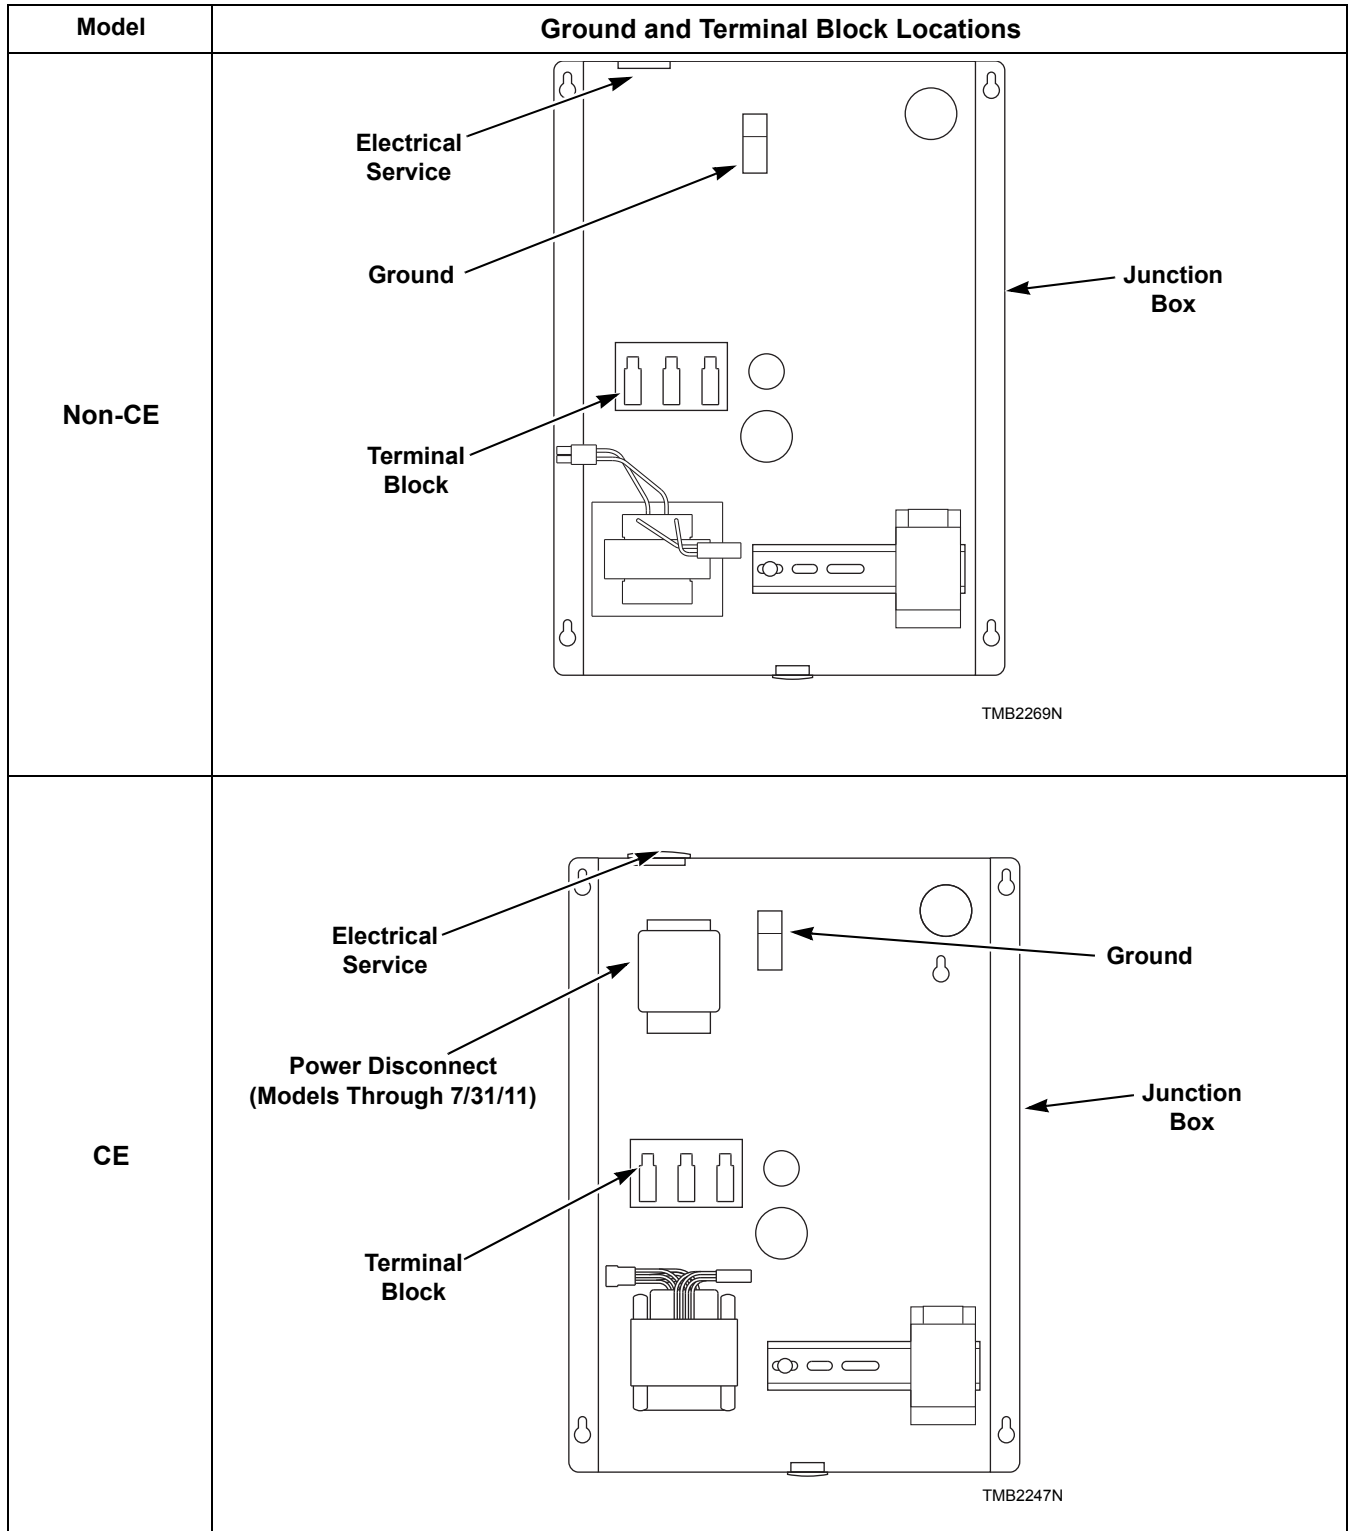

Figure 20
2. Connect the conduit-encased leads to the circuit breaker. Connect the wire leads to the appropriate labeled terminal on the terminal block. The ground wire must be connected to the ground connection as shown in *Figure 20*.